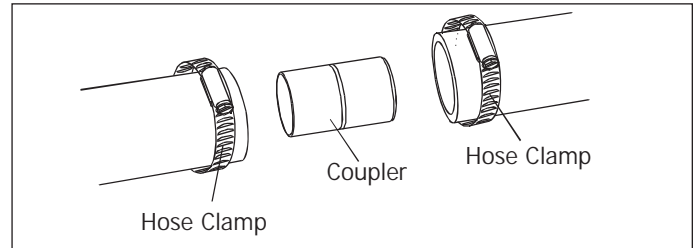

Figure 2-19.
2. If a longer drain hose is required, add up to 42" of length for a total of 10 feet to the factory installed hose. Use 5/8" or 7/8" inside diameter hose and a coupler to connect the two hose ends. Secure the connection with hose clamps. (See Figure 2-19)